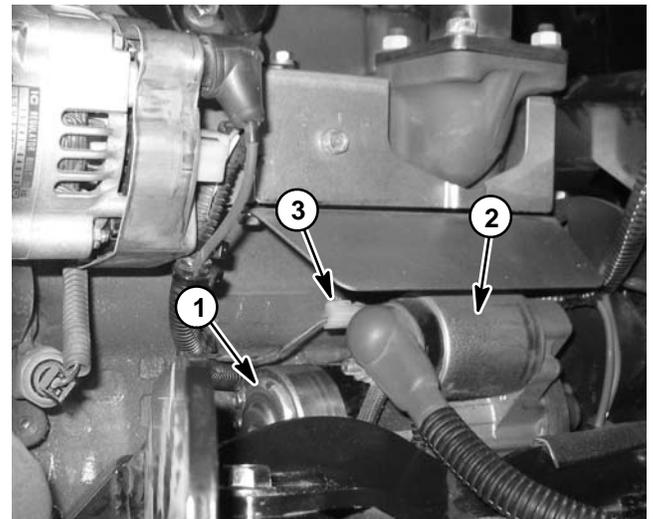

Figure 45
3. Connect remote starter switch electrical leads to the starter motor solenoid B+ terminal (Fig. 45) and the positive (+) terminal at the starter or battery.
4. Engage remote starter switch and crank starter for thirty (30) seconds to prime hydraulic pumps. Wait thirty (30) seconds to allow the starter motor and starter solenoid to cool. Repeat cranking procedure a second time.